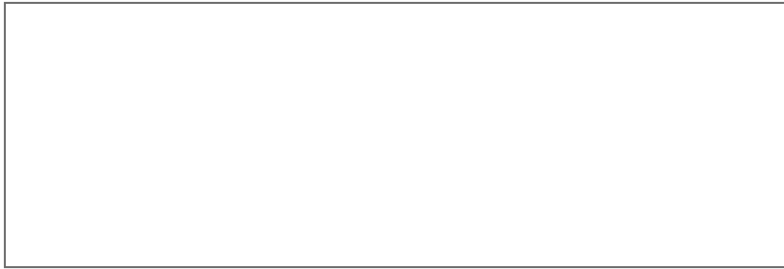

FIGURE 12.59: The rectangle after panning down
5. Pan to move the new rectangle down a little (see Figure 12.59).